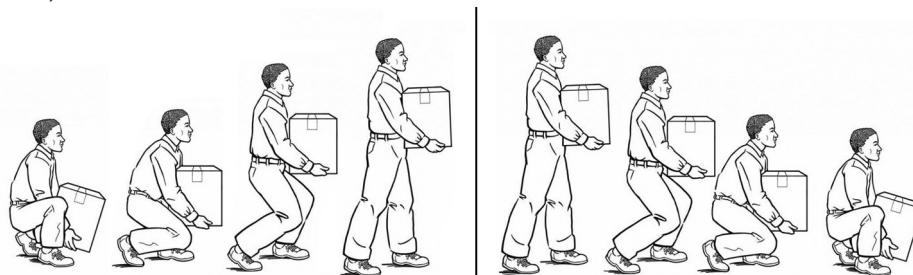

Figure 1
- When lifting and carrying, always keep the pump close to your body. (See Figure 1)
- When starting the lift, bend your knees and keep your back straight. (See Figure 1) Tightening the stomach muscles will help keep your back straight.
- During the lift, use your legs to do the work. Never use your back, and make sure your legs are at least shoulder-width apart. (See Figure 1)